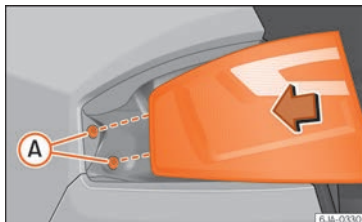

Fig. 102 Fit the tail light unit.
- Press the rear light unit backwards (driving direction) by fitting the fastenings into the rubber mountings »» Fig. 102 A.